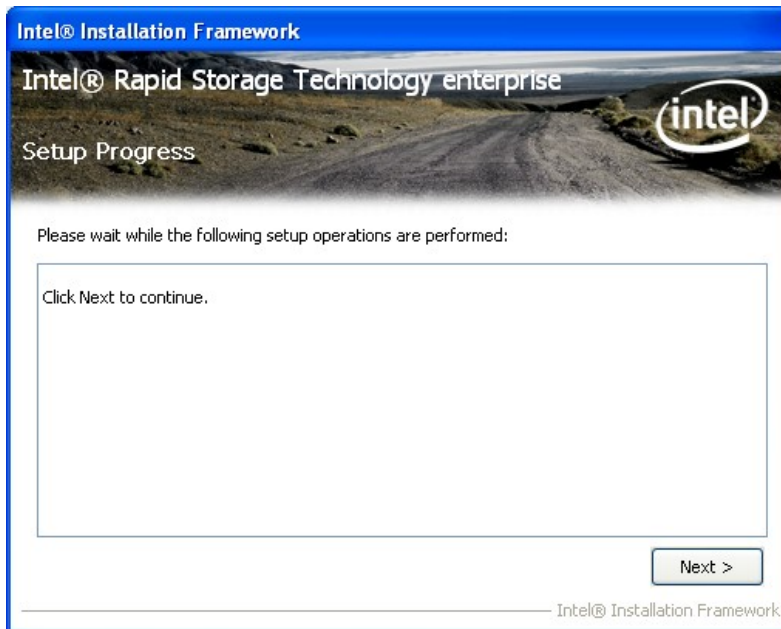

Figure 6-27: SATA RAID Driver Setup Operations
Step 13: Once the **Setup Operations** are complete, click **Next** to continue (Figure 6-27).